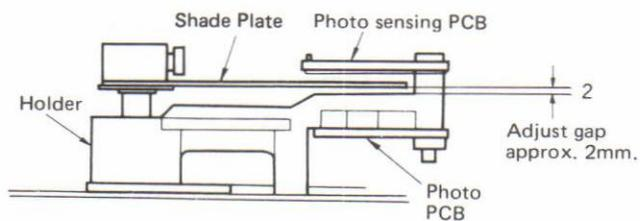

Fig. 10
1. Attach the shade plate as shown in Figs. 10 and 11.
2. The dimension for the separation between the shade plate and the holder is specified in Fig. 10.